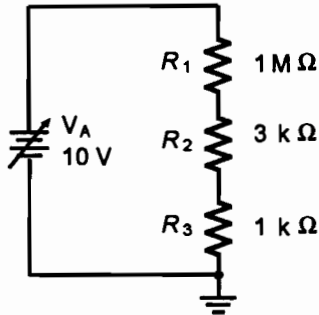

Figure 1.4
1. If the circuit of Figure 1.4 were mounted in a printed circuit board, describe the measurements you would make to be certain that the failure was an open resistor rather than a break in the solder connection on the board connecting one leg of  $R_3$  to the circuit board.